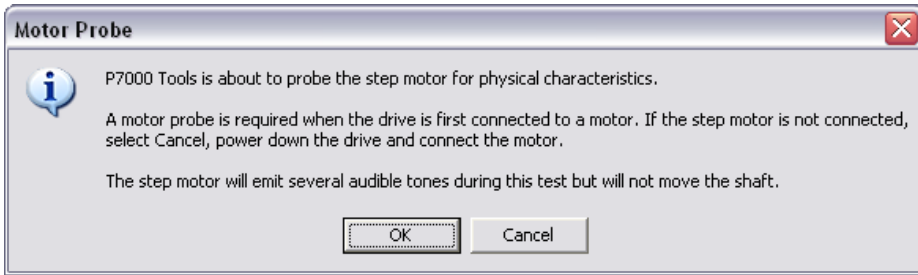

Figure 14. Drive and Motor Initialization
9. When the configuration data is downloaded, the drive performs the initialization process with the motor as shown in Figure 14. Click **OK**.